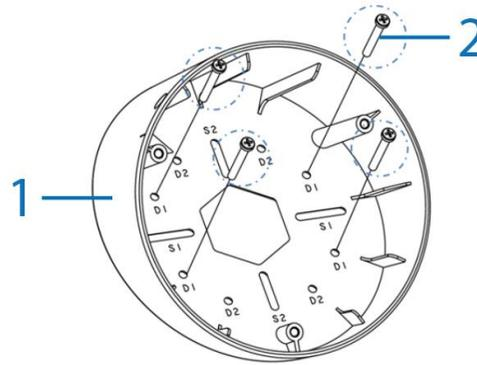

Figure 2
4. Insert the four TP4 Tapping screws (2) (Figure 2) into the four screw anchors and use the screwdriver to securely attach the tilt mount accessory (1) (Figure 2) to the wall surface.